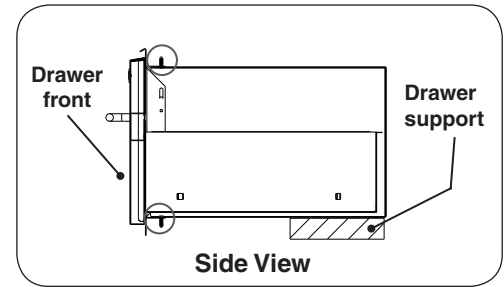

Fig. 2-3 Drawer Installation (Side View)
1. In order to properly support the weight of your drawer, it is necessary to provide a secure, level surface in the rear of the unit. (See Fig 2-3) This may be accomplished by using bricks, 2 X 4's, etc. Be sure that the height of this rear support is  $\frac{1}{8}$ " higher than that of the front opening support, so that your drawer sits level.